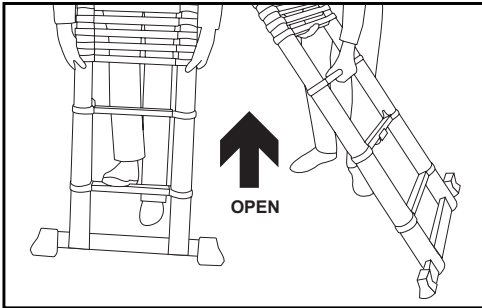

Figure 3
- 2.2 Stand and support the closed / retracted product vertically and upon a firm / level surface and then place one foot centrally upon the fixed bottom rung (rung 1) to stabilise the ladder (see figure 3).
- 2.4 Using both hands, lightly hold the stile tubes below the black support rings of rung 3 (the rung of the first / lowest extendable ladder section) and then pull up and fully extend the section (see figure 3).